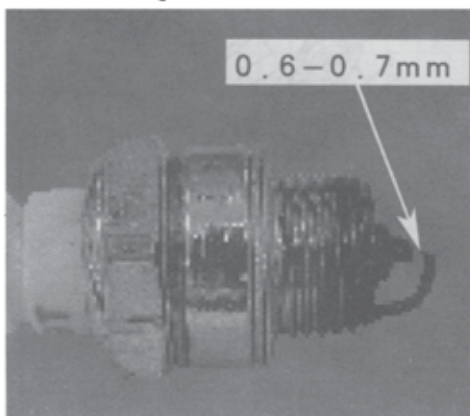

Fig 16
(2) Fuel system maintenance
(3) Air filter and plug.
- d. The plug model of this machine is 4106J. Do not use other models. If it is necessary for change, may buy it from local agricultural department or plant protection department, as shown in Fig.16.